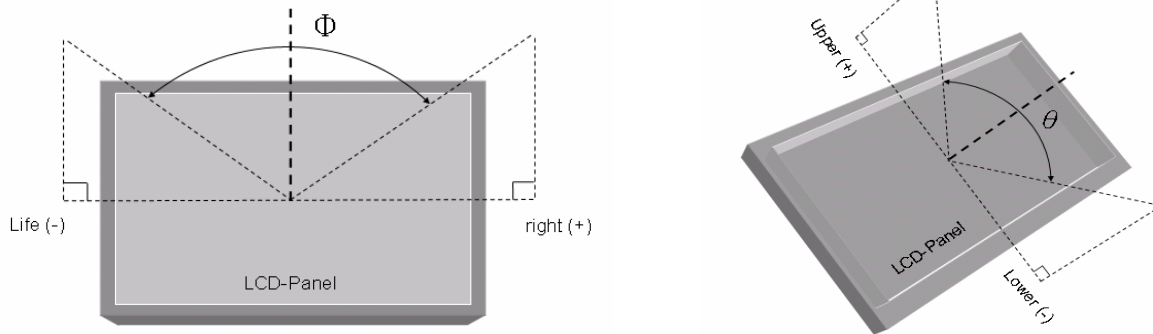

Fig9-2 Definition of Viewing Angle
*3) Definition of Viewing Angle(θ, ψ),refer to Fig9-2 as below : (in the dark room.EZ-CONTRAST (ELDIM))